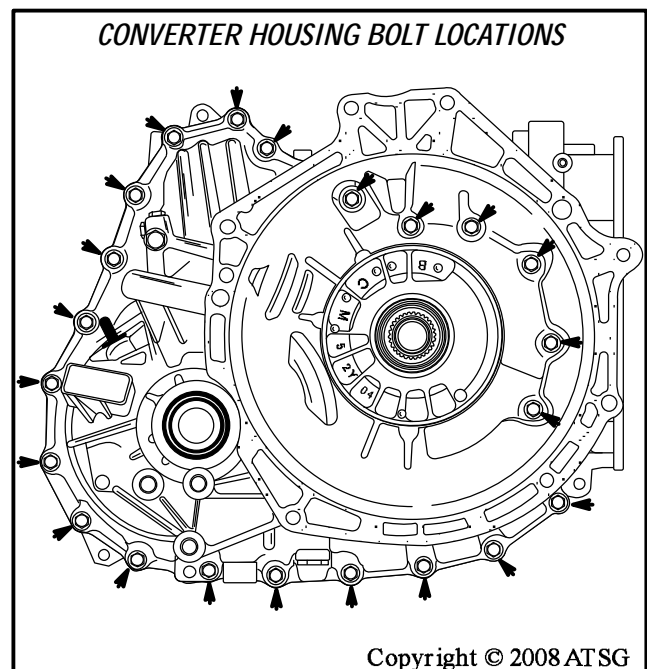

Figure 38
19. Remove the 22 converter housing to case bolts, and their locations are shown in Figure 38.